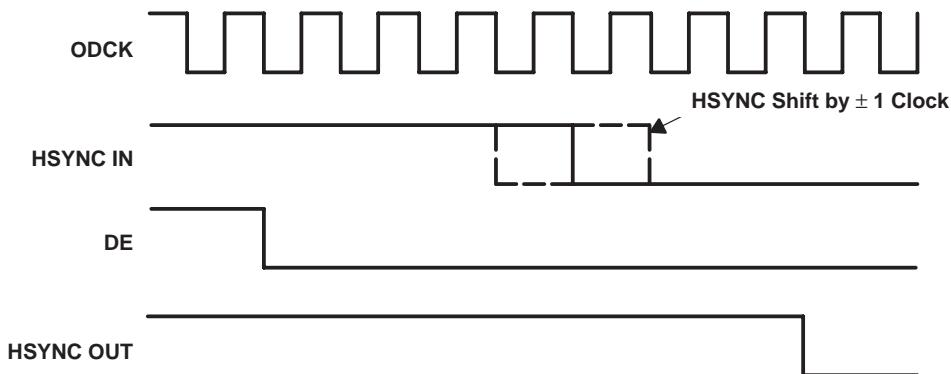

Figure 16. HSYNC Regeneration Timing Diagram
The TFP101A integrates HSYNC regeneration circuitry that provides a seamless interface to these noncompliant transmitters. The position of the data enable (DE) signal is always fixed in relation to data, irrespective of the location of HSYNC. The TFP101A receiver uses the DE and clock signals recreate stable vertical and horizontal sync signals. The circuit filters the HSYNC output of the receiver, and HSYNC is shifted to the nearest eighth bit boundary, producing a stable output with respect to data, as shown in Figure 16. This will ensure accurate data synchronization at the input of the display timing controller.